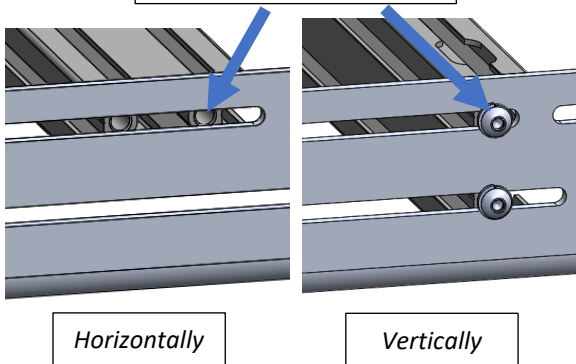

Figure 5: Crossbar Fastening to Side Rail Subassemblies
3. Install at crossbars to connect the driver and passenger side rail subassemblies together. Use measurements of vents or flooring panels to correctly space crossbars. Crossbars can be installed **horizontally** or **vertically** (top & bottom slots) of the side rails. Reference Figure 4 & Figure 5.